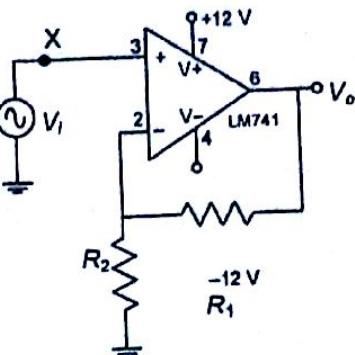

Fig. 7.3 Non-inverting amplifier
- 1) Assemble the circuit shown in Fig. 7.3 with  $R_1 = 10 \text{ k}\Omega$  and  $R_2 = 1 \text{ k}\Omega$ . Make sure the power supply ground is connected to the circuit ground.